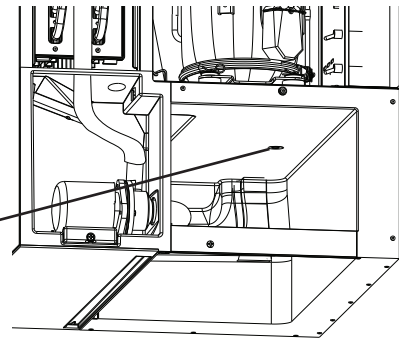

Fig. 16
- 4) As water begins to fill the water tank (1-min. fill), place an object 5" to 7" (127 to 178 mm) away from the bin control lens. See Fig. 16. 15 sec. later, the icemaker shuts down. Remove the object from the bin control lens. 30 sec. later, the icemaker restarts.